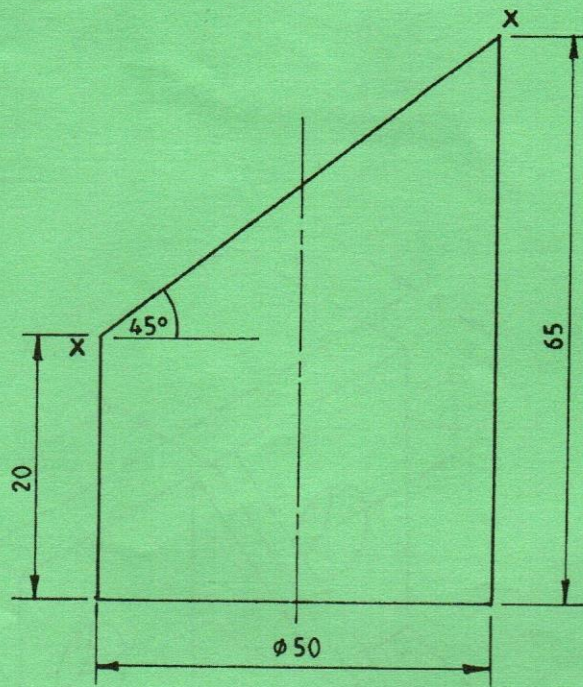

Fig. 4
7. Figure 4 shows the front elevation of a truncated cylinder. Copy the given view and draw the: